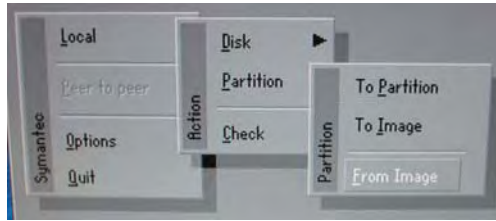

Figure 1-155. Ghost Disk Verification I
2. Select **Local**, **Disk**, and **From Image** from the menu within Ghost (Figure 1-155).